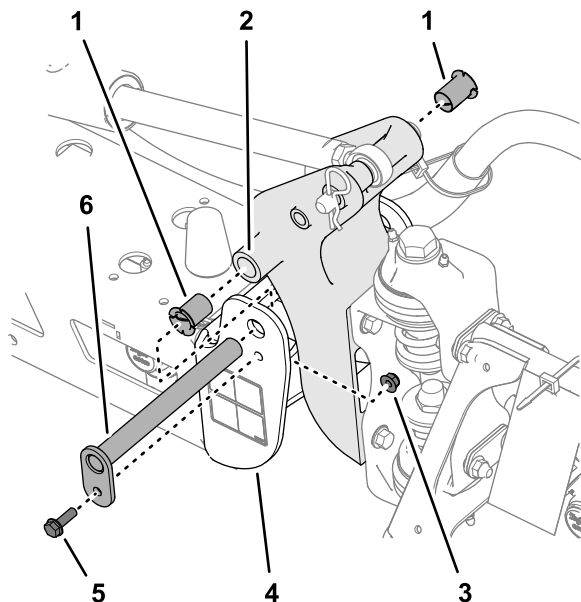

Figure 105
3. Remove the bolt and nut that secure the pivot pin, and remove the pin (Figure 105).
5. Remove and inspect the nylon bushings from the front and back sides of the pivot bracket (Figure 105).
6. Lubricate the nylon bushings with a small amount of oil and install the bushings into pivot bracket (Figure 105).
7. Align the holes in the pivot bracket with the holes in the end channel (Figure 105).